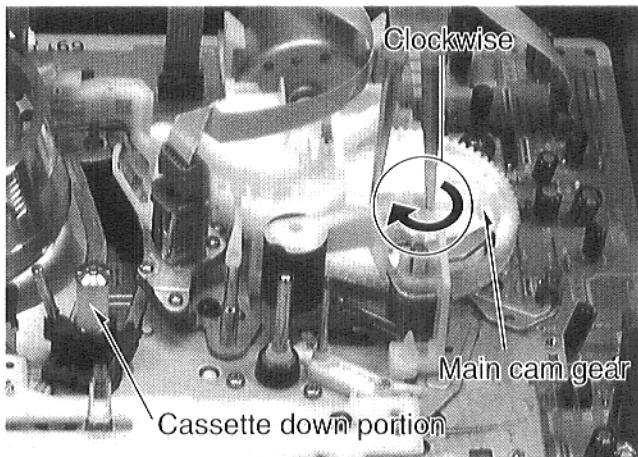

Fig. A1
(1) Disconnect the AC power cord and remove Top Panel.
(2) Rotate Main cam gear to the clockwise and unload the mechanism (Tape is remaining) (Fig. A1).